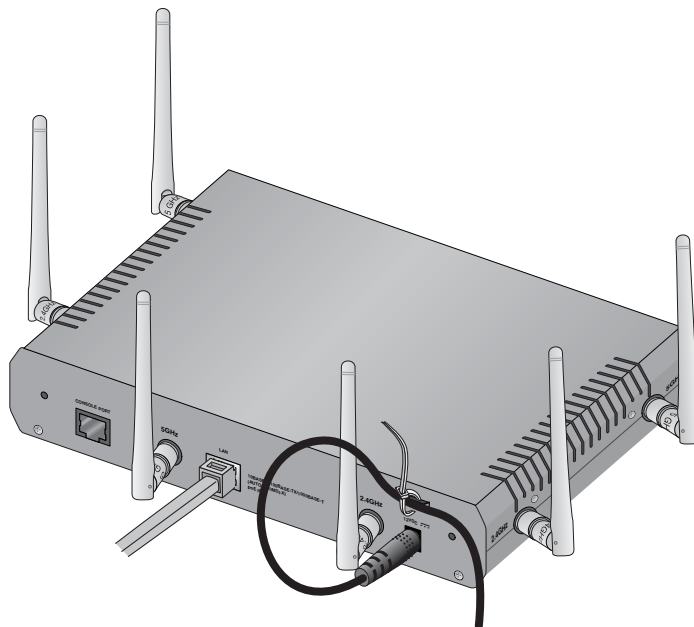

Figure 11. Securing the DC Power Cord to the Access Point with the Tie Wrap
7. Secure the DC cable to the anchor on the unit with the tie wrap that comes with the access point. Refer to Figure 11 on page 35.